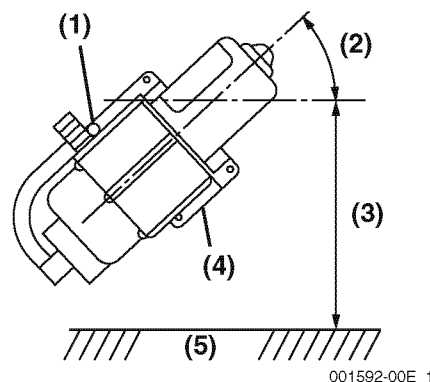

Figure 7-16
2. Select the location for the bilge pump (**Figure 7-16, (4)**), taking into consideration the length of the switch cable (approximately 3 m [9.8 ft]) and its attachment point in relation to the battery location.
3. Orient the pump at a 45° angle (**Figure 7-16, (2)**) with the nozzle facing up, and 50 to 70 cm (20 to 28 in.) (**Figure 7-16, (3)**) from the bottom of the boat.